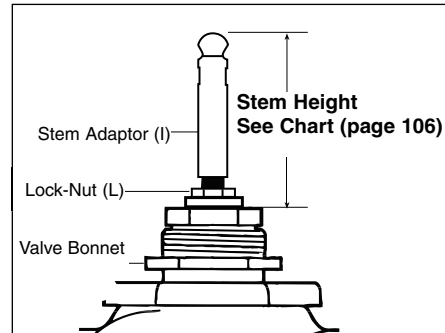

Fig. 1
2. Screw lock nut (L) and stem adaptor (I) onto valve stem.
3. With stem pushed down completely adjust stem adaptor (I) height for corresponding valve. Tighten lock nut (L). (See Figure 1).